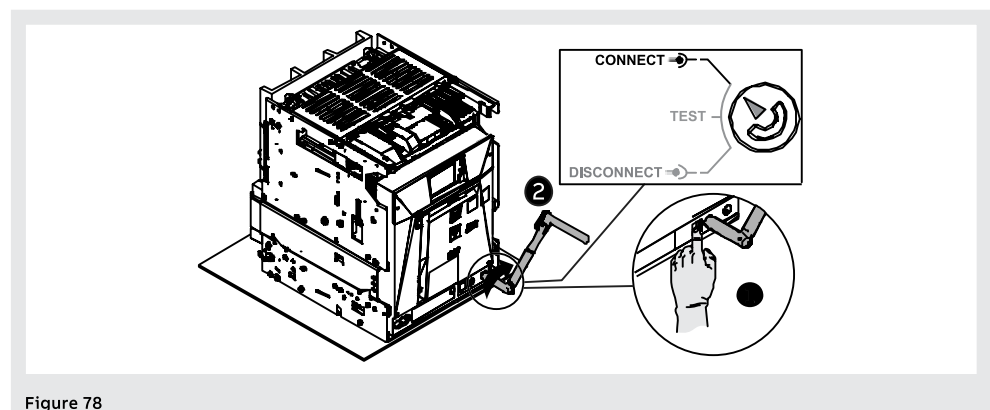

Figure 78
10. Press lock pushbutton and turn handle clockwise until pushbutton projects and signaling device indicates that circuit-breaker is in position **CONNECT**. See Figure 78.